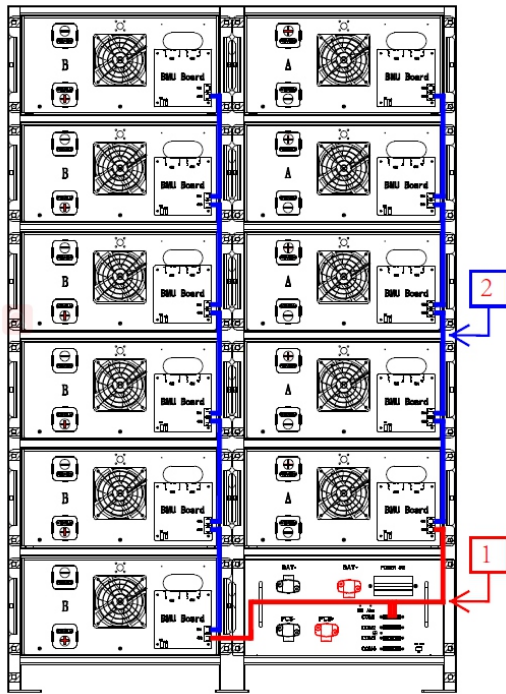

Figure-16 Battery cluster communication cable wiring diagram (picture is for reference only)
2) .According to the wiring position shown in Figure-16, each cluster is connected to the battery module communication line in the S-shape from the lower right corner.